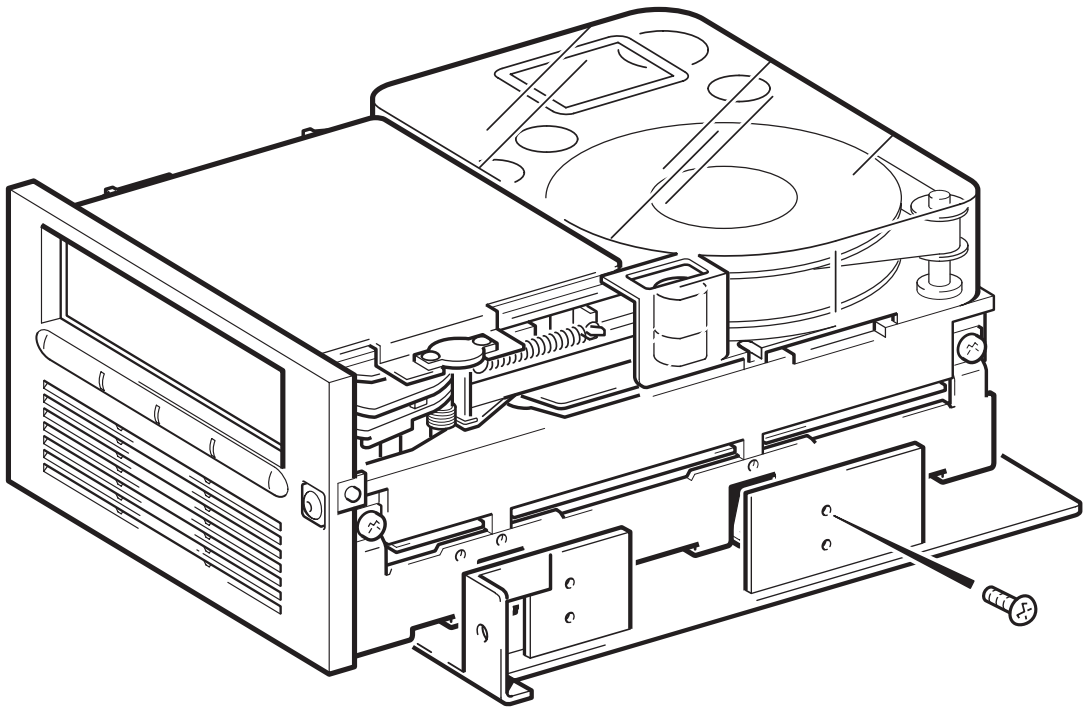

Figure 3: attaching tray for NetServer L-Series servers
- If you are installing in an HP NetServer L-series, place the tape drive in the mounting tray supplied, as shown in figure 3.